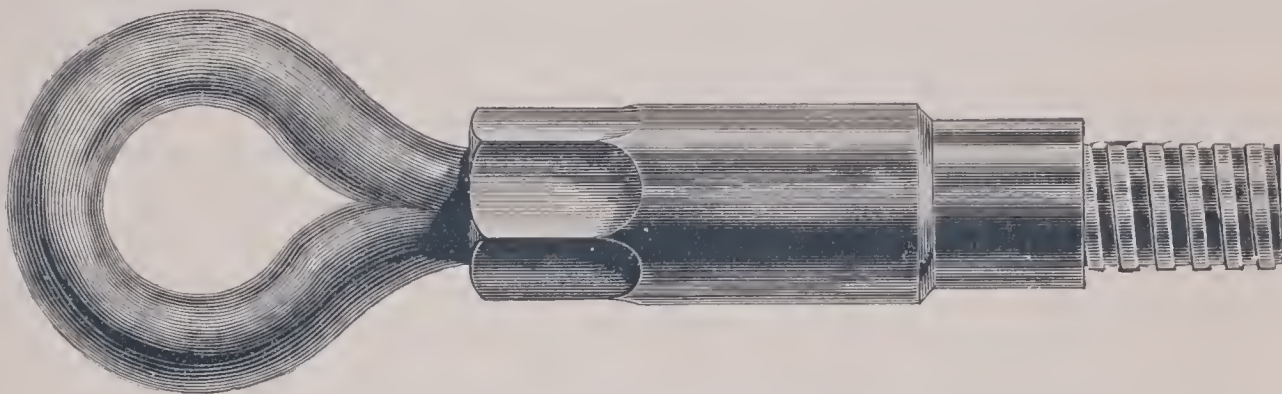
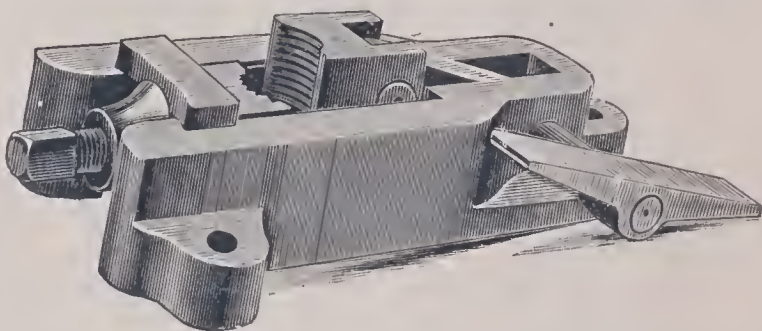

Fig. 11. Hoisting-Plug or Lifting-Swivel.
Fig. 12. Safety-Clamp.
**LOWERING THE RODS.** The drill being slid back out of the way, on its frame, the bit and core-shell are screwed to the bottom of the core-barrel, lowered into the hole and supported while a drill-rod is screwed into the upper end of the core-barrel. The *Hoisting-Plug or Lifting-Swivel* (Fig. 11) is then screwed into the upper end of the drill-rod, the hoisting rope hooked on, and the rods lifted a few inches while the supporting clamp is taken off. Disconnecting the hoisting gears, the core-barrel and rod are lowered by the brake until the hoisting plug is a few inches from the floor, when the *Safety-Clamp* (Fig. 12) is placed around the drill-rods.